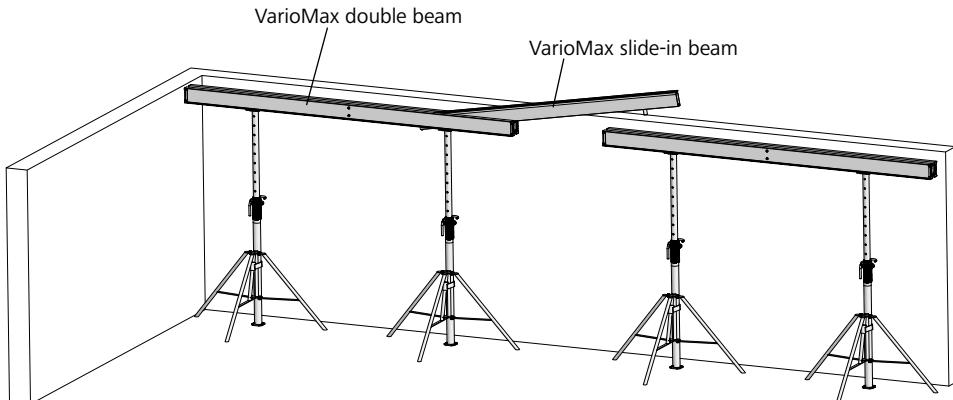

Fig. 8.1
4. Place the double beams on the props first and then insert the slide-in beams (Fig. 8.1). If a slide-in beam is located between two double beams, the slide-in beam's mounting spike can be pushed up as far as the double beam's mounting plate. At the other end of the slide-in beam, the stop bolt defines the maximum prop spacing of the slide-in beam (Fig. 8.4).